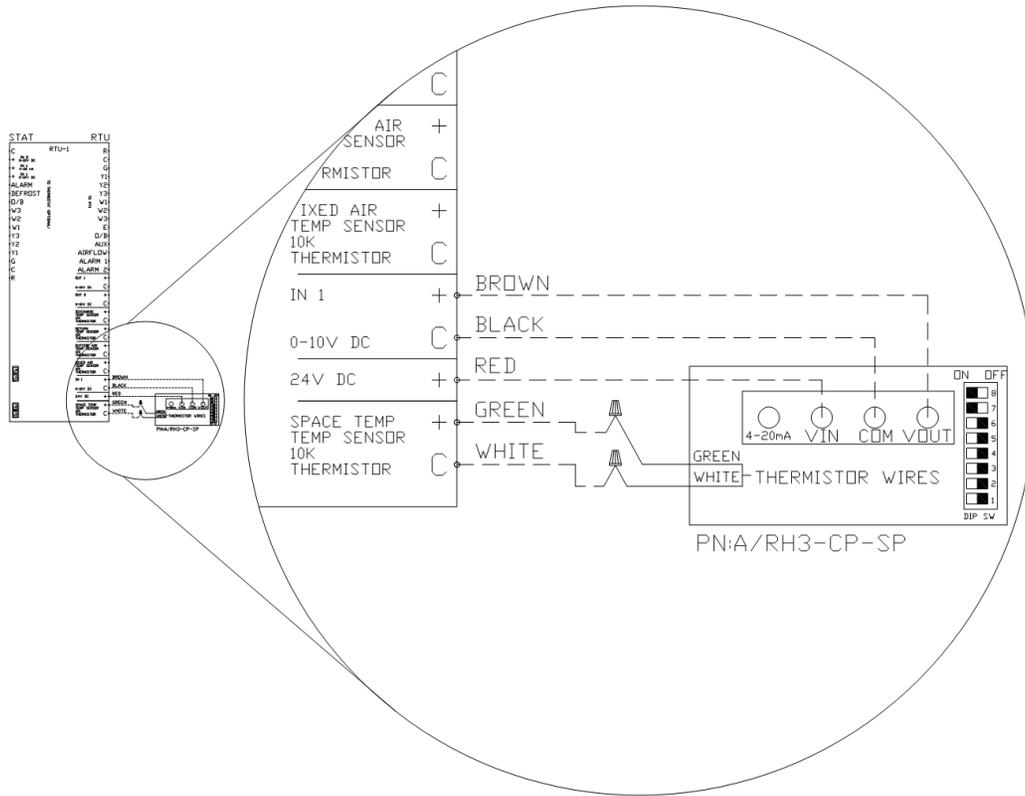

Figure 14. Space Mounted Temp/Humidity Sensor Wiring
The sensor has a bank of eight dip switches that control the range of the output voltage of the humidity sensor. Switches seven (7) and eight (8) need to be turned ON, and the rest should remain OFF. These dip switches can be seen in the sensor detail in **Figure 14**.
Once the sensor is wired to an input, enter the configuration menu of the RTULink via the onboard HMI and configure the corresponding input for the humidity sensor that was installed. In the **Figure 14** example, "RTU IN 1" would be configured for "SPACE RH".